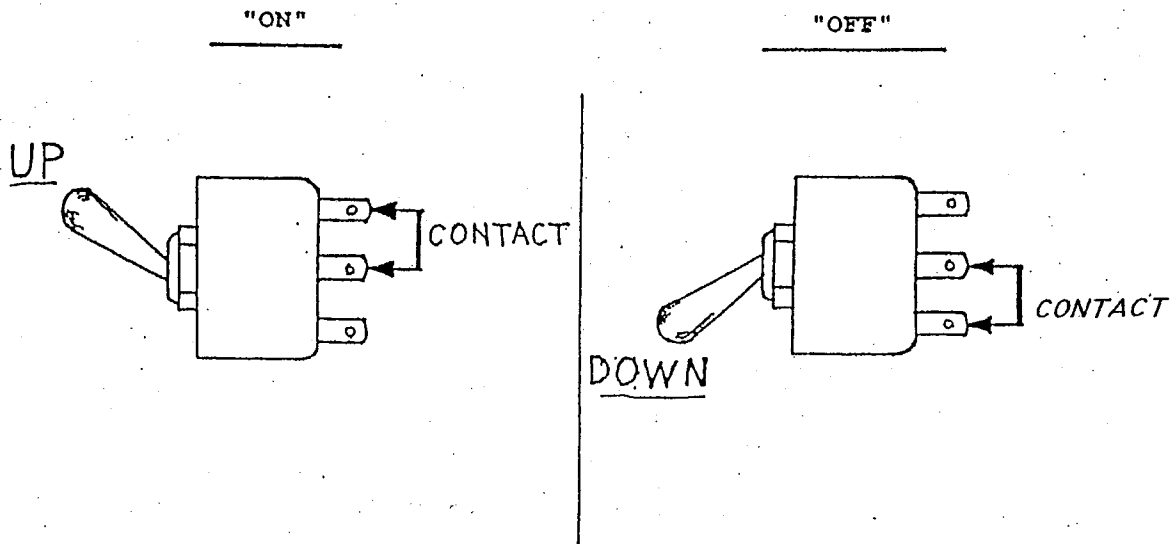

FIGURE 8-3
3. Cross-connect the outer poles of each switch as shown in Fig.8-3 (page 51) using small pieces of insulated wire.
4. Insulate and solder the common (center) poles of the switches in SEQUENCE (see Fig.8-3) to the legs of the respective feed-through terminals - A,  $\bar{A}$ , B,  $\bar{B}$ , C,  $\bar{C}$ , D, and  $\bar{D}$  exactly as shown.
5. Mount the four 1K $\Omega$  resistors to the PC board. The remaining four connections on the dip pin connector in figure 8- 4, are the resistors connections to the toggle switches on the top of the box. Connect the cable as shown in Fig 8-3 (page ).
6. Finally, solder a length of (BLACK) wire from the common (Gnd) terminal on the top section of the box to the first switch as shown in Fig.8-3. Then use three short pieces of BLACK wire to connect the other three switches. (see figure 8-3)